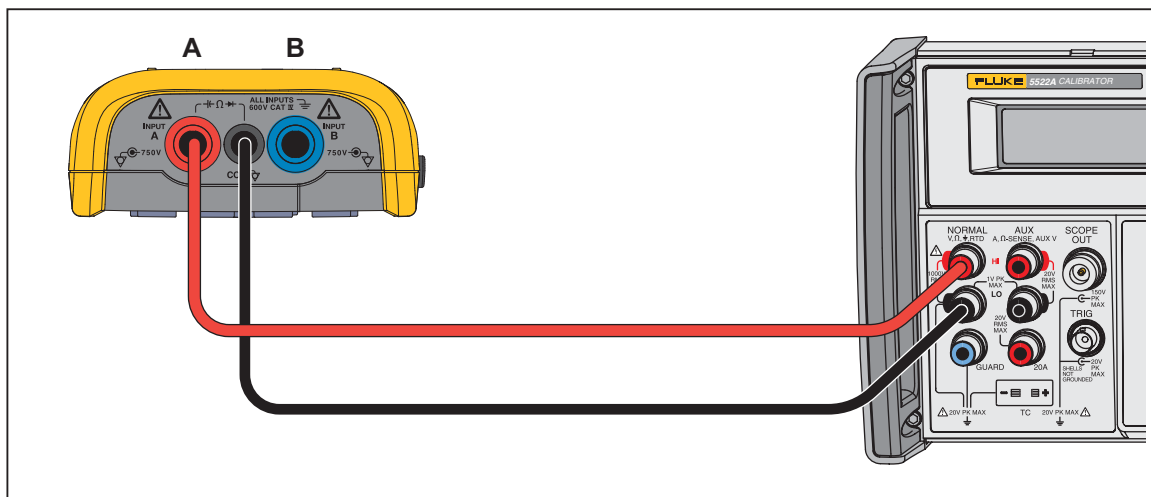

Figure 13. Capacitance Gain Calibration Input Connections
2. Connect the Test Tool to the Calibrator as shown in Figure 13.